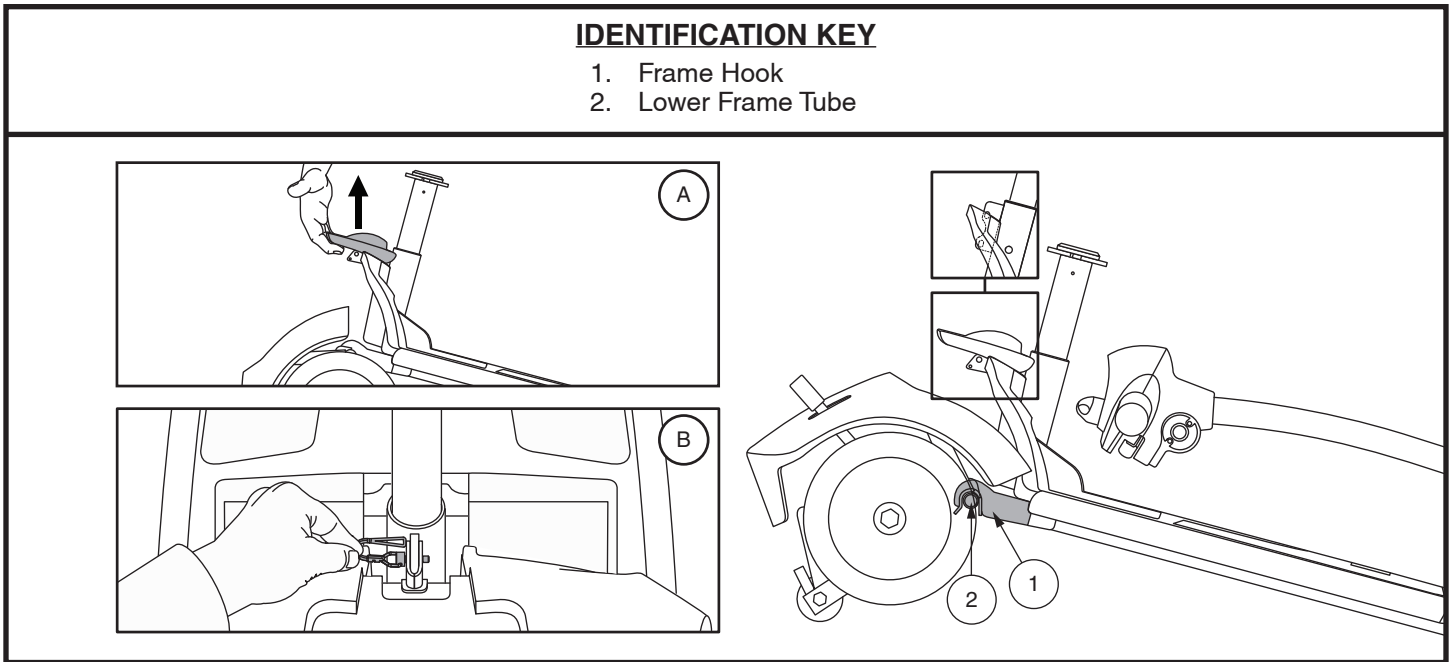

Figure 20. Frame Release Lever
3. Slowly separate the two sections of the Travel Scooter. **See figure 20.**
NOTE: Before attempting assembly, tilt the rear half of the Travel Scooter slightly back on the anti-tip wheels as shown in figure 20.
1. Use the frame release lever to lift the front section as you align the frame hooks of the front section with the lower frame tube of the rear section. **See figure 20.**
2. Once the frame hooks are over the lower frame tube, lower the front section and pivot the rear section simultaneously. This will engage the frame lock-up automatically. **See figure 20.**